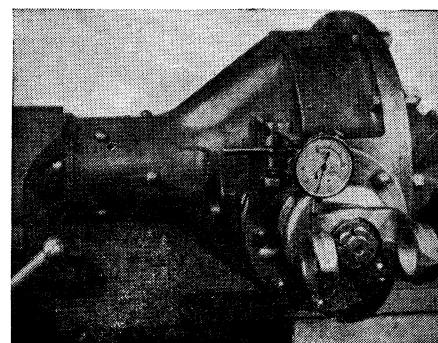

Fig. 114 Checking gear lash with dial indicator
2. Check gear lash with dial indicator from a position 2" from pinion shaft center, Fig. 114. The amount indicated at this point will be twice the amount of the actual gear lash.